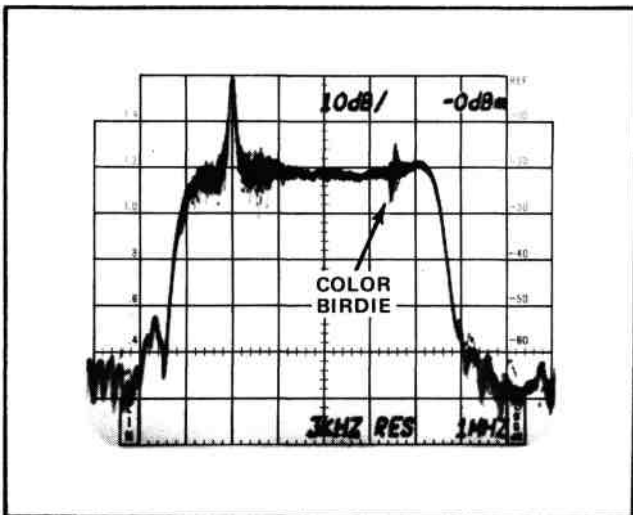

Fig. 2-9. Low level sideband response using 3 kHz resolution bandwidth.
5. Approximately 10 dB more range and finer resolution can be obtained with 3 kHz resolution (see Fig. 2-9). The fine tuning control will be more critical and tend to drift unless both instruments are completely warmed up.